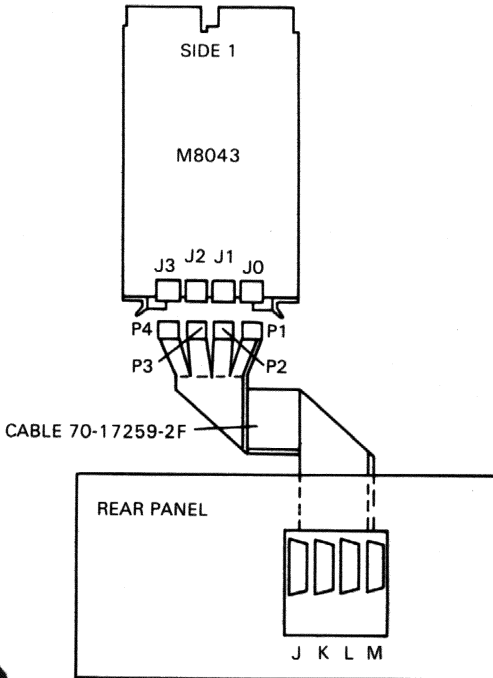

Figure 23 Cable Layout
6. Fit cable connections to PCB (see Figure 23)